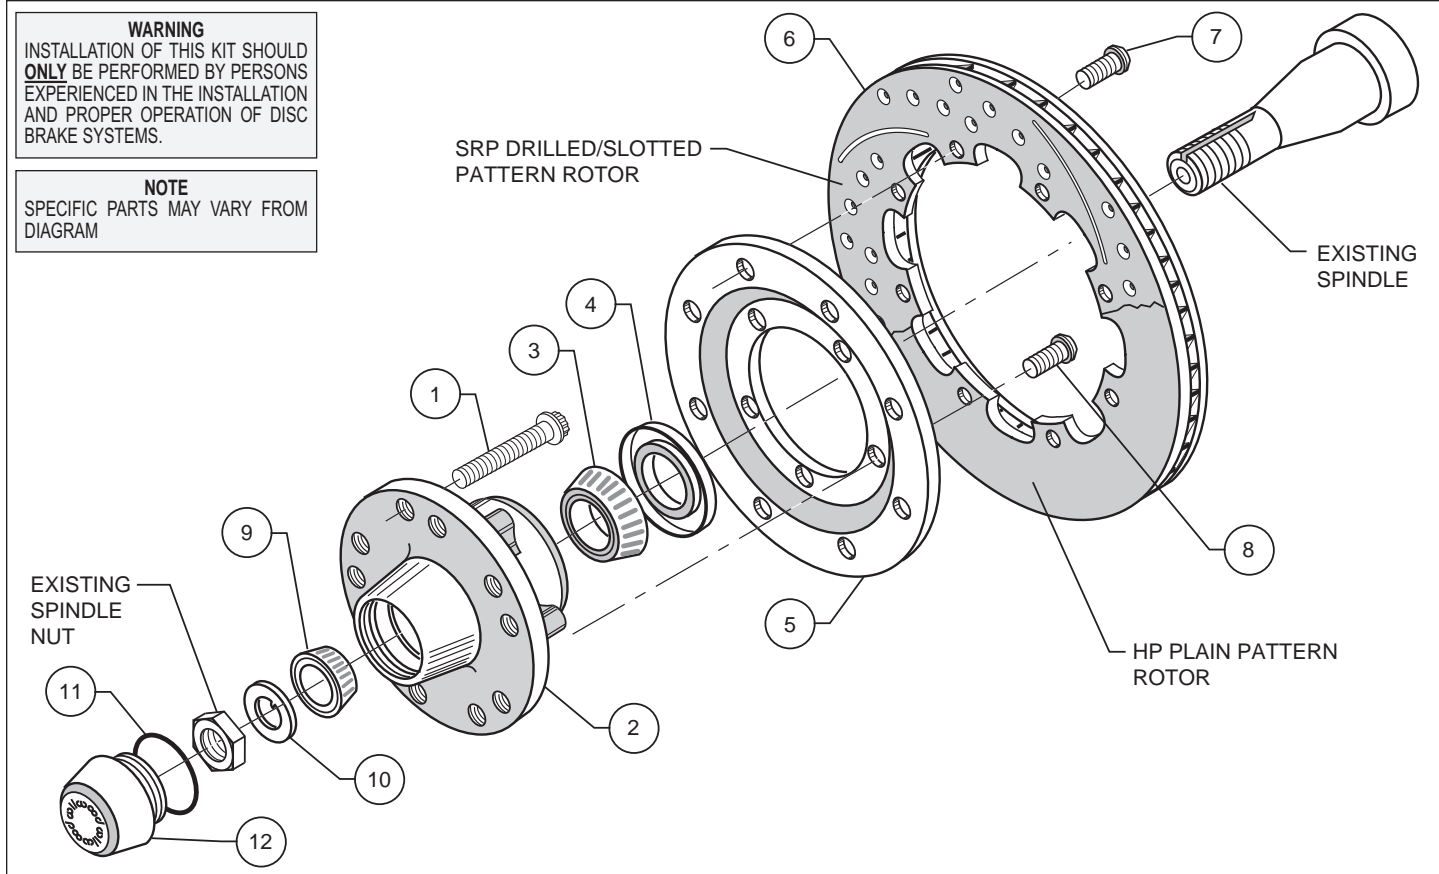

Figure 1. Typical Installation Configuration
- Install wheel studs (1) into the hub (2). Torque to 77 ft-lb. **NOTE:** There are two five lug patterns in the hub (5 x 4.50 and 5 x 4.75). Make sure of the correct hole pattern for the correct wheel application before installing studs into hub.
- Pack the large inner bearing cone (3) with high temperature disc brake bearing grease (available from your local auto parts store) and install into the backside of the hub (2).
- Install the grease seal (4) by pressing into the backside of the hub (2).
- Orient the rotor (6) and the rotor adapter (5) as shown in Figure 1. Attach the rotor to the adapter using bolts (7). Using an alternating sequence, apply red *Loctite*® 271 to the threads, and torque to 25 ft-lb.
- Mount the adapter/rotor assembly (5/6) to the hub (2) using bolts (8), as shown in Figure 1. Using an alternating sequence, apply red *Loctite*® 271 to the threads, and torque to 45 ft-lb.
- Pack the small outer bearing cone (9) with high temperature disc brake bearing grease and install into front of hub (2). Slide the hub/rotor assembly (2 and 6) with outer bearing cone onto the spindle. Secure using spindle washer (10), stock adjusting nut and nut locking device. Adjust bearings per Original Equipment Manufacturer (OEM) specifications.
- Install the dust cap (12) onto the hub (2) with a new o-ring (11). Friction created by the o-ring (11) on the dust cap (12) keeps it from unscrewing. The O.D. of the spindle washer may be larger than the I.D. of the dust cap not allowing it to seat against the hub face. Some grinding on the washer O.D. may be necessary to clear the I.D. of the dust cap.